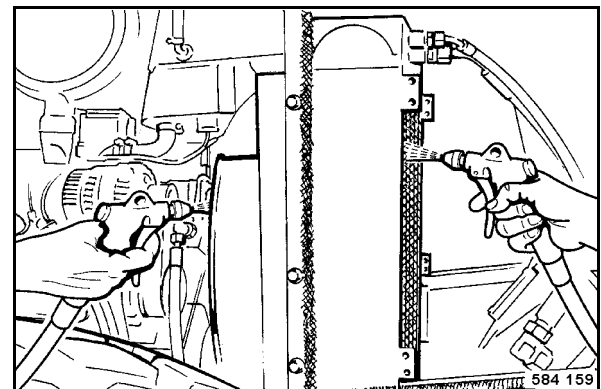

Fig. 127
- Blow the cooler (Fig. 127) out with compressed air.